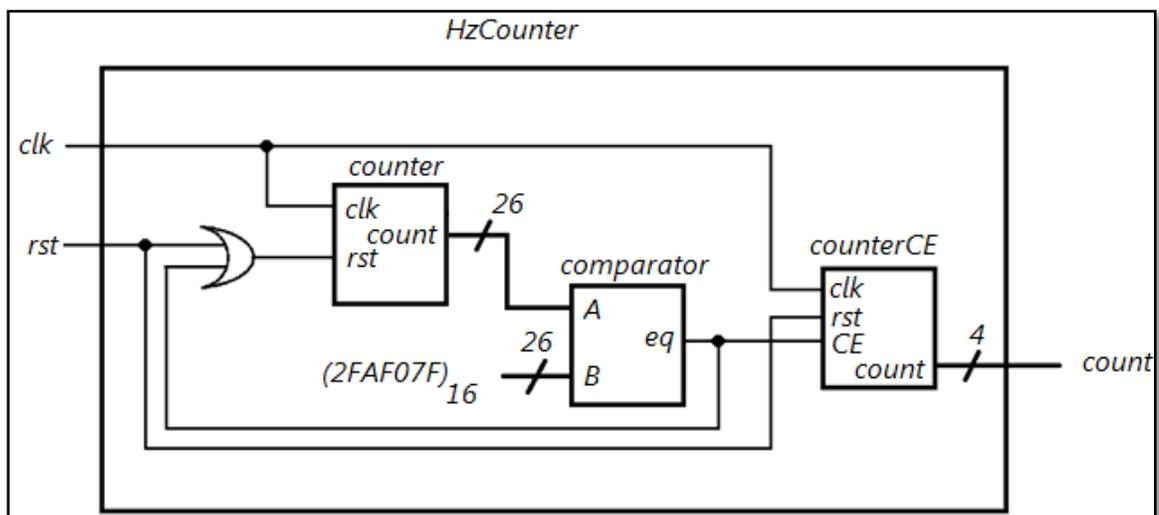

Figure 7
7. The *HzCounter* module will combine all previous modules: *counter*, *comparator* and *counterCE*. They should be connected according to Figure 7.